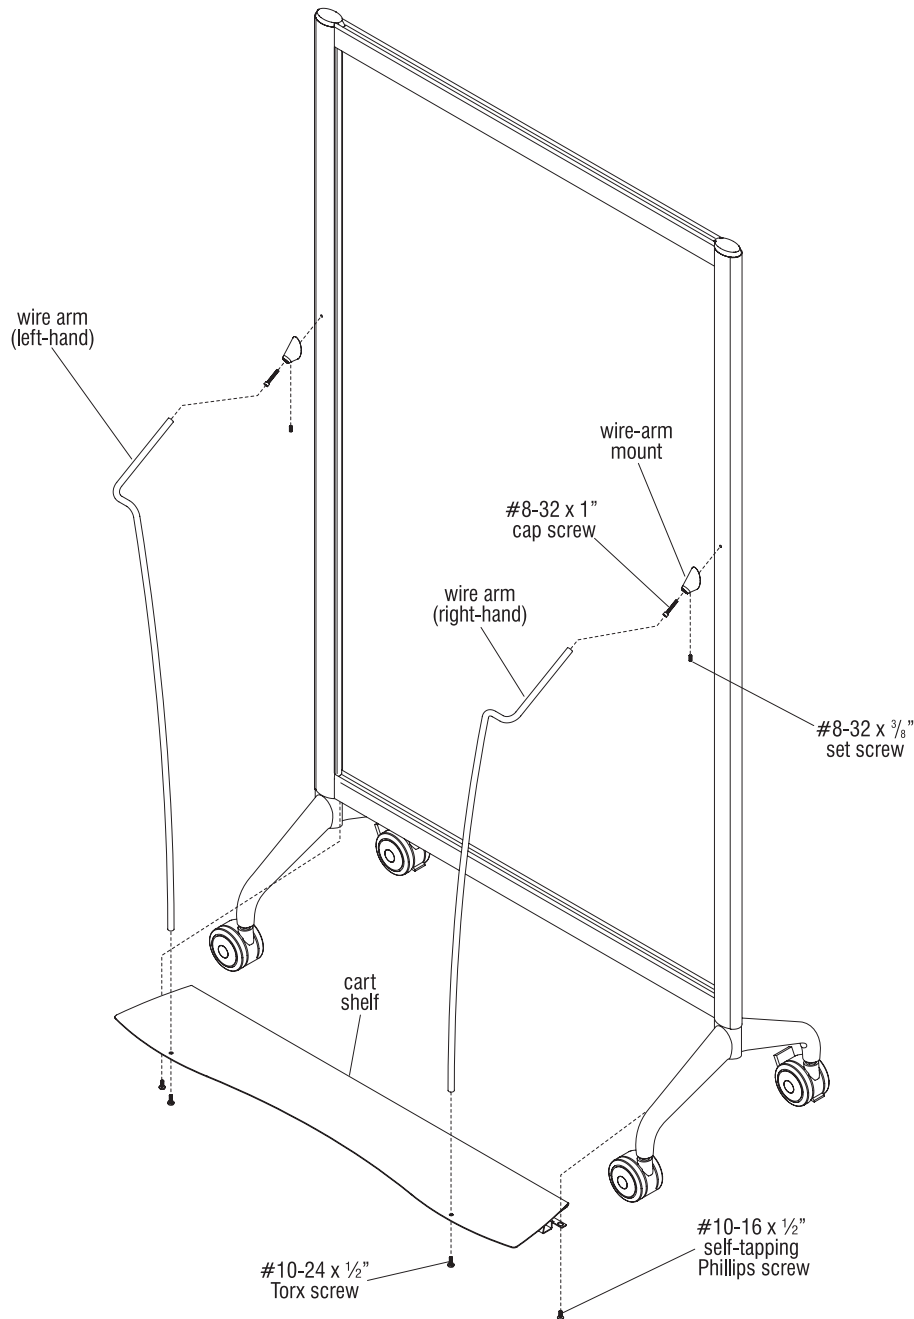

Figure 1
Note: The Figure 1 illustration shows screen in the upright position, but laying the screen back flat for assembly is easier. Take care when tipping the screen flat and rest it on a soft protective surface to avoid damage.
2. One side at a time, position a wire-arm mount over the pre-drilled hole in the vertical frame as illustrated and secure the mount to the frame using a #8-32 x 1" cap screw (Figure 1).
3. Position the cart shelf centered onto the frame, with mounting bracket under the frame. Secure the shelf to the frame using two #10-16 x 1/2" self-tapping Phillips screws through the shelf mounting bracket into the underside of the frame (Figure 1).
4. One wire arm at a time, inset the top of the wire arm into the wire-arm mount, then align the bottom mounting hole in the wire arm with the appropriate mounting hole in the cart shelf. Insert and tighten one #10-24 x 1/2" Torx screw up into the wire arm and tighten. Repeat for wire arm at opposite side (Figure 1).
5. At the top of each wire arm, insert a #8-32 x 3/8" set screw and tighten (Figure 1).